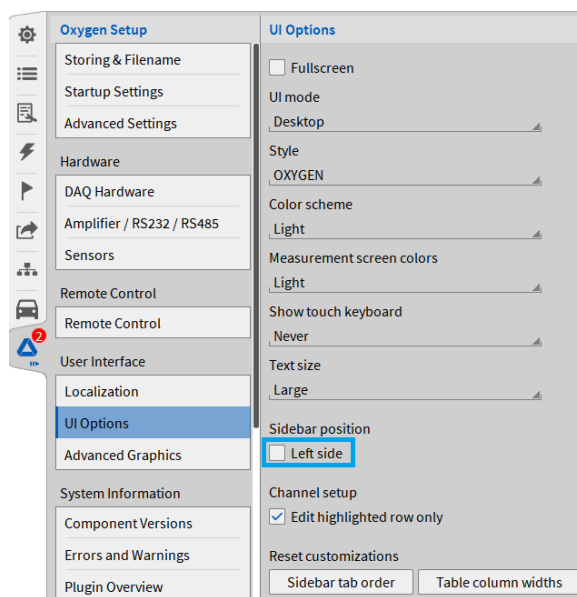

Fig. 3.20: Sidebar position reset
- The user may find it difficult to place the menus back in the default order once a change has been made. To reset the position of your menus, head into *OXYGEN Setup > UI Options* and select the *Reset* button found under the *Sidebar position* section (see ① in Fig. 3.20).
- The user can also swap the right and the left sidebar. To do so, head again into *OXYGEN Setup > UI Options* and select *Left side* under the *Sidebar position* (see ② in Fig. 3.20).